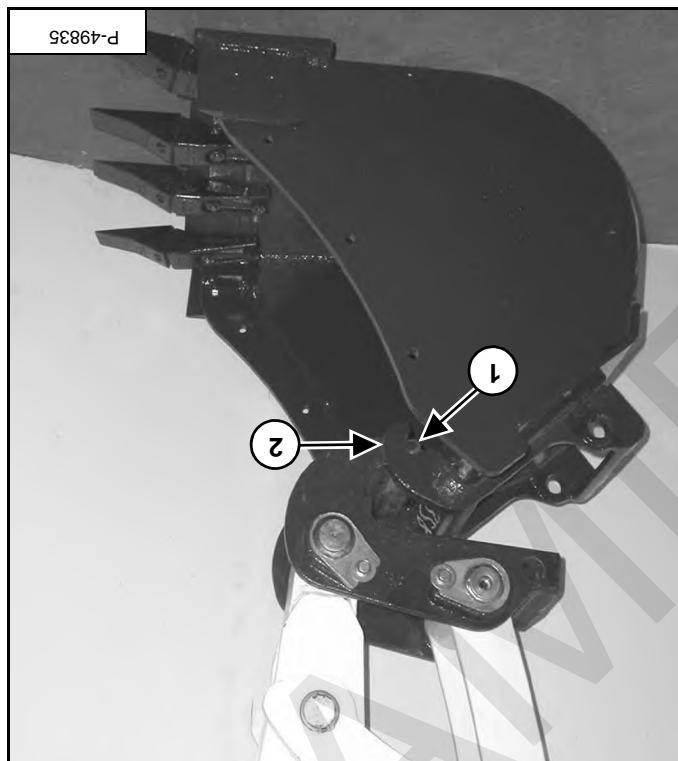

Figure 128
Start the engine, raise the boom approximately 305 mm (12 in) and extend the bucket cylinder until the X-Change pins (item 1) engage the hooks (item 2) [Figure 128] on the attachment.